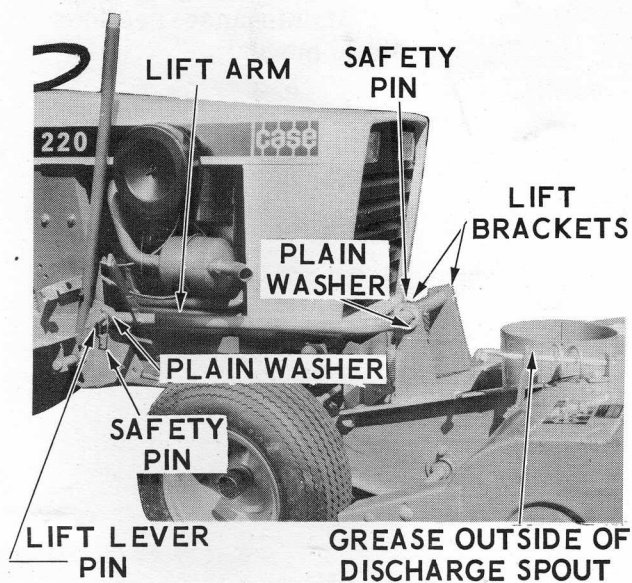

Figure 13.
5. Remove the safety pins from the lift arm. With the plain washer located next to the cotter pin as shown in Figure 13, place the lift arm through the auger lift brackets.
7. Apply a coat of grease around the outside of the discharge spout as shown in Figure 13.